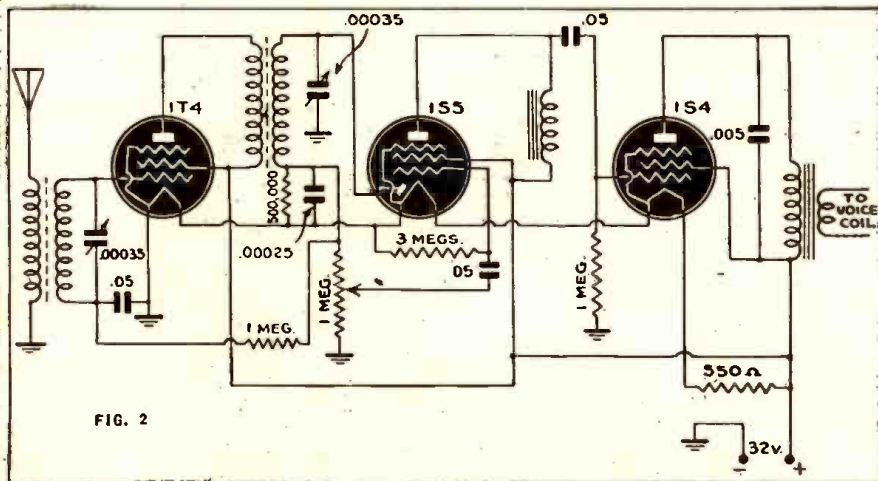

FIG. 2
A. The miniature type low-voltage tubes make it possible to design a set that will work with reasonable efficiency on 32 volts. The two coils should be of the iron-core R.F. type, for greater sensitivity. The audio frequency choke in the plate circuit of the 1S5 may be any small choke—the secondary of a burned-out audio transformer has been used here with good results. (See Fig. 2.)